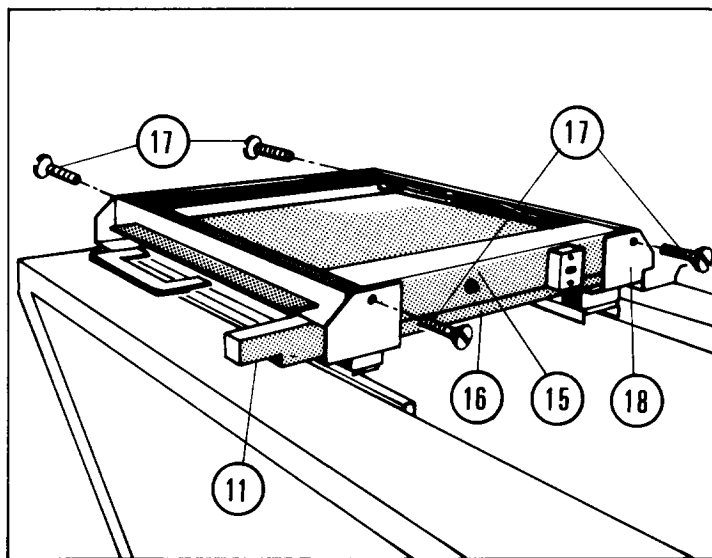

Fig. 4d
Siemens Bucky Remove the rear mounting bracket (Fig. 4d/item 18) and the push button housing (item 11). Guide the Bucky from the rear of the table onto the carriage (item 16) and push the Bucky all the way to the front. Reinstall the rear mounting bracket (item 18) and fasten the Bucky (item 15) with screws (item 17) to the carriage. Remount the push button housing (item 11).